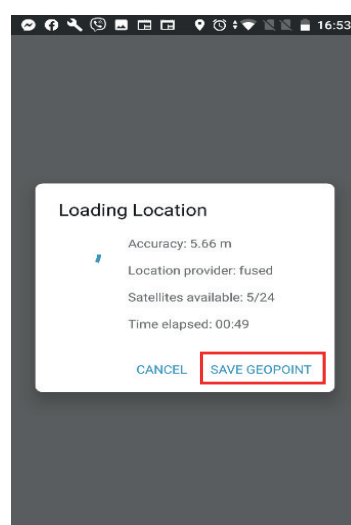

Figure 59: KoBoCollect - Saving GeoPoint
3. Stand at point for 3-5mins in order to obtain an accurate location. (Figure 59) Once you are satisfied with the accuracy range (<5m), click on "SAVE GEOPOINT".